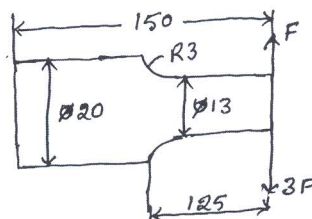

Fig.Q3(c)
c. A cantilever beam made of cold drawn carbon steel ($\sigma_u = 500 \text{ MPa}$, $\sigma_y = 470 \text{ MPa}$, $\sigma_{-1} = 275 \text{ MPa}$) of circular cross section is subjected to load which varies from $-F$ to $3F$. Determine the maximum load that this member can withstand for an indefinite life. Using a factor of safety of 2. [Refer Fig.Q3(c)]